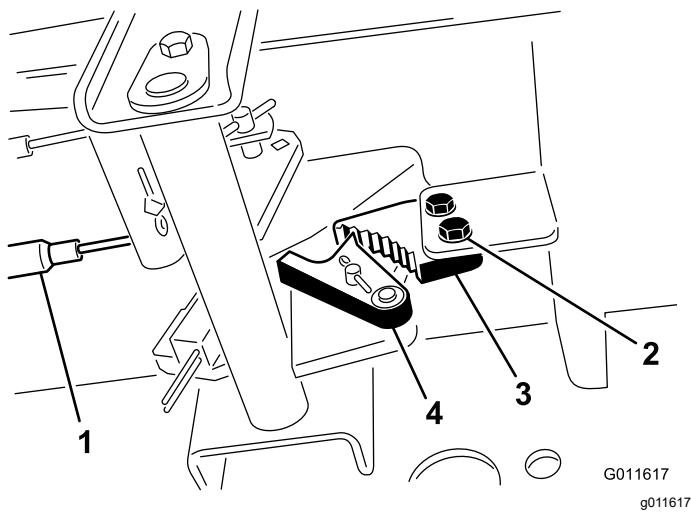

Figure 114
2. Loosen the 2 screws securing the parking-brake pawl to the frame (Figure 114).
3. Press the parking-brake pedal forward until the brake detent completely engages on the brake pawl (Figure 114).